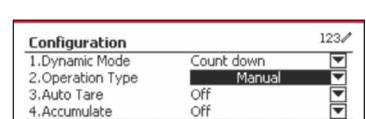

Figure 78
- Select the list item and press the softkey corresponding to the ✓ icon to change setting. (See Figure 78)